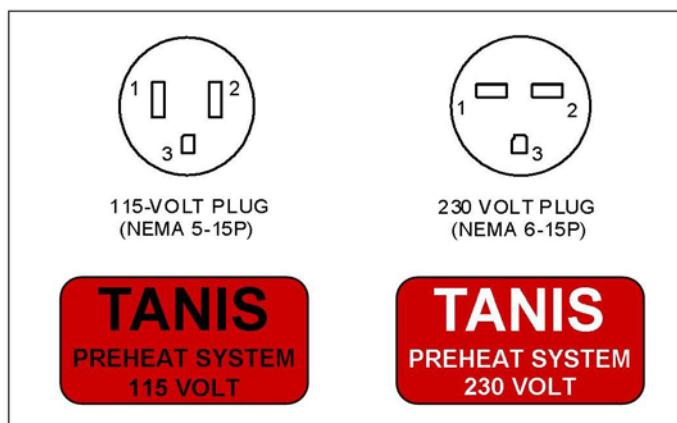

Figure 1 Shore power plug types and placards. Standard Tanis placard shown, appropriate alternate stating *Tanis System* and required voltage acceptable.
- 3) [] Verify Tanis system ground by checking for continuity between shore power plug ground, pin 3 (Figure 1), engine, and airframe.
To calculate the specific wattage of an individual element or installed system, measure total resistance between the contacts (Figure 1, 1 and 2), and use the following formula.